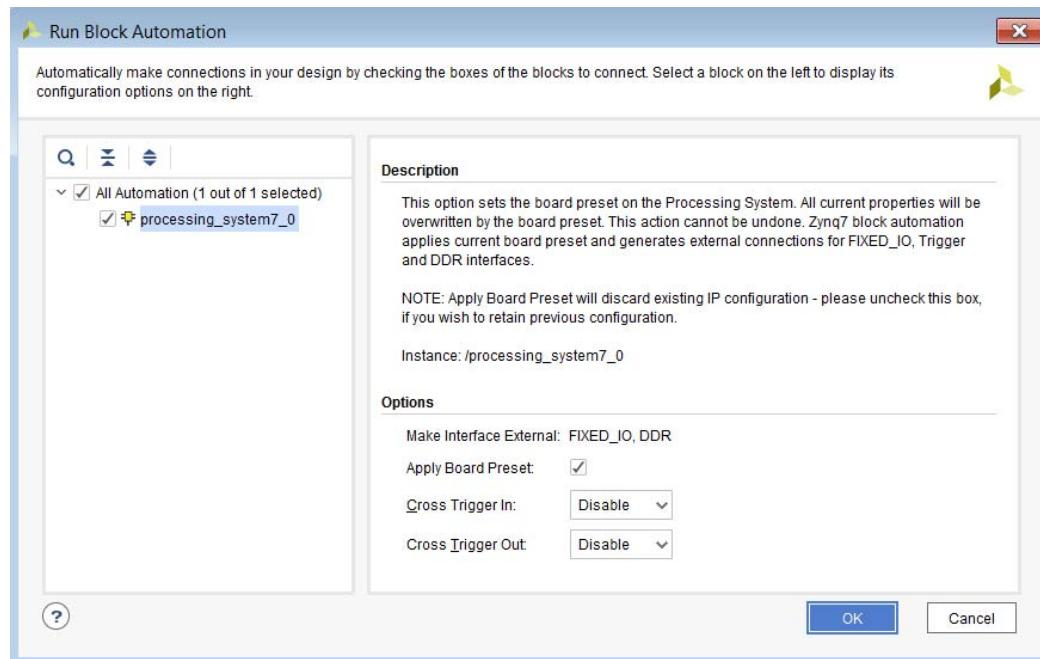

Figure 6-17: Run Block Automation on the ZYNQ7 Processor
- The Run Block Automation states that the **FIXED_IO** and the **DDR** interfaces will be connected to external ports, as shown in Figure 6-17.